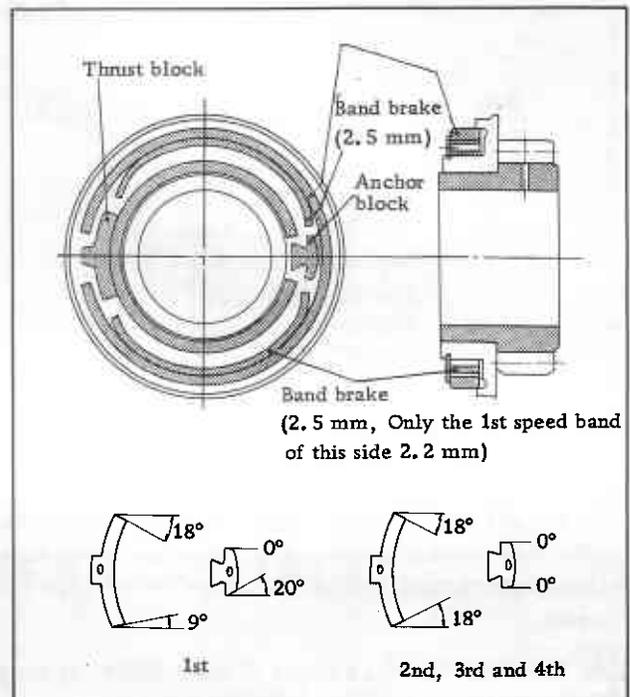

Fig. TM-48 Synchronizer assembly
3. Install the thrust block in the position shown in Figure TM-48.
4. Fit the anchor block to each gear and install the brake bands as shown in Figure TM-48.